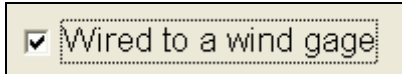

Figure 16.4.22C
- If a Wind Gage (-WG) option is installed in this controller check the **Wired to a wind gage** box (Figure 16.4.22C).